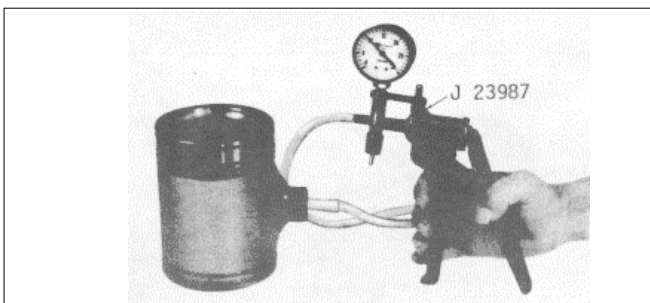

Fig. 10
- (10) One important function of the piston pin retainer is to prevent the oil, which cools the underside of the piston and lubricates the piston pin bushing, from reaching the cylinder walls. Check each retainer for proper sealing with leak detector J 23987 (Fig. 10). Place the suction cup over the retainer and hand operate the lever to pull a vacuum of ten inches on the gage. A drop in the gage reading indicates air leakage at the retainer.